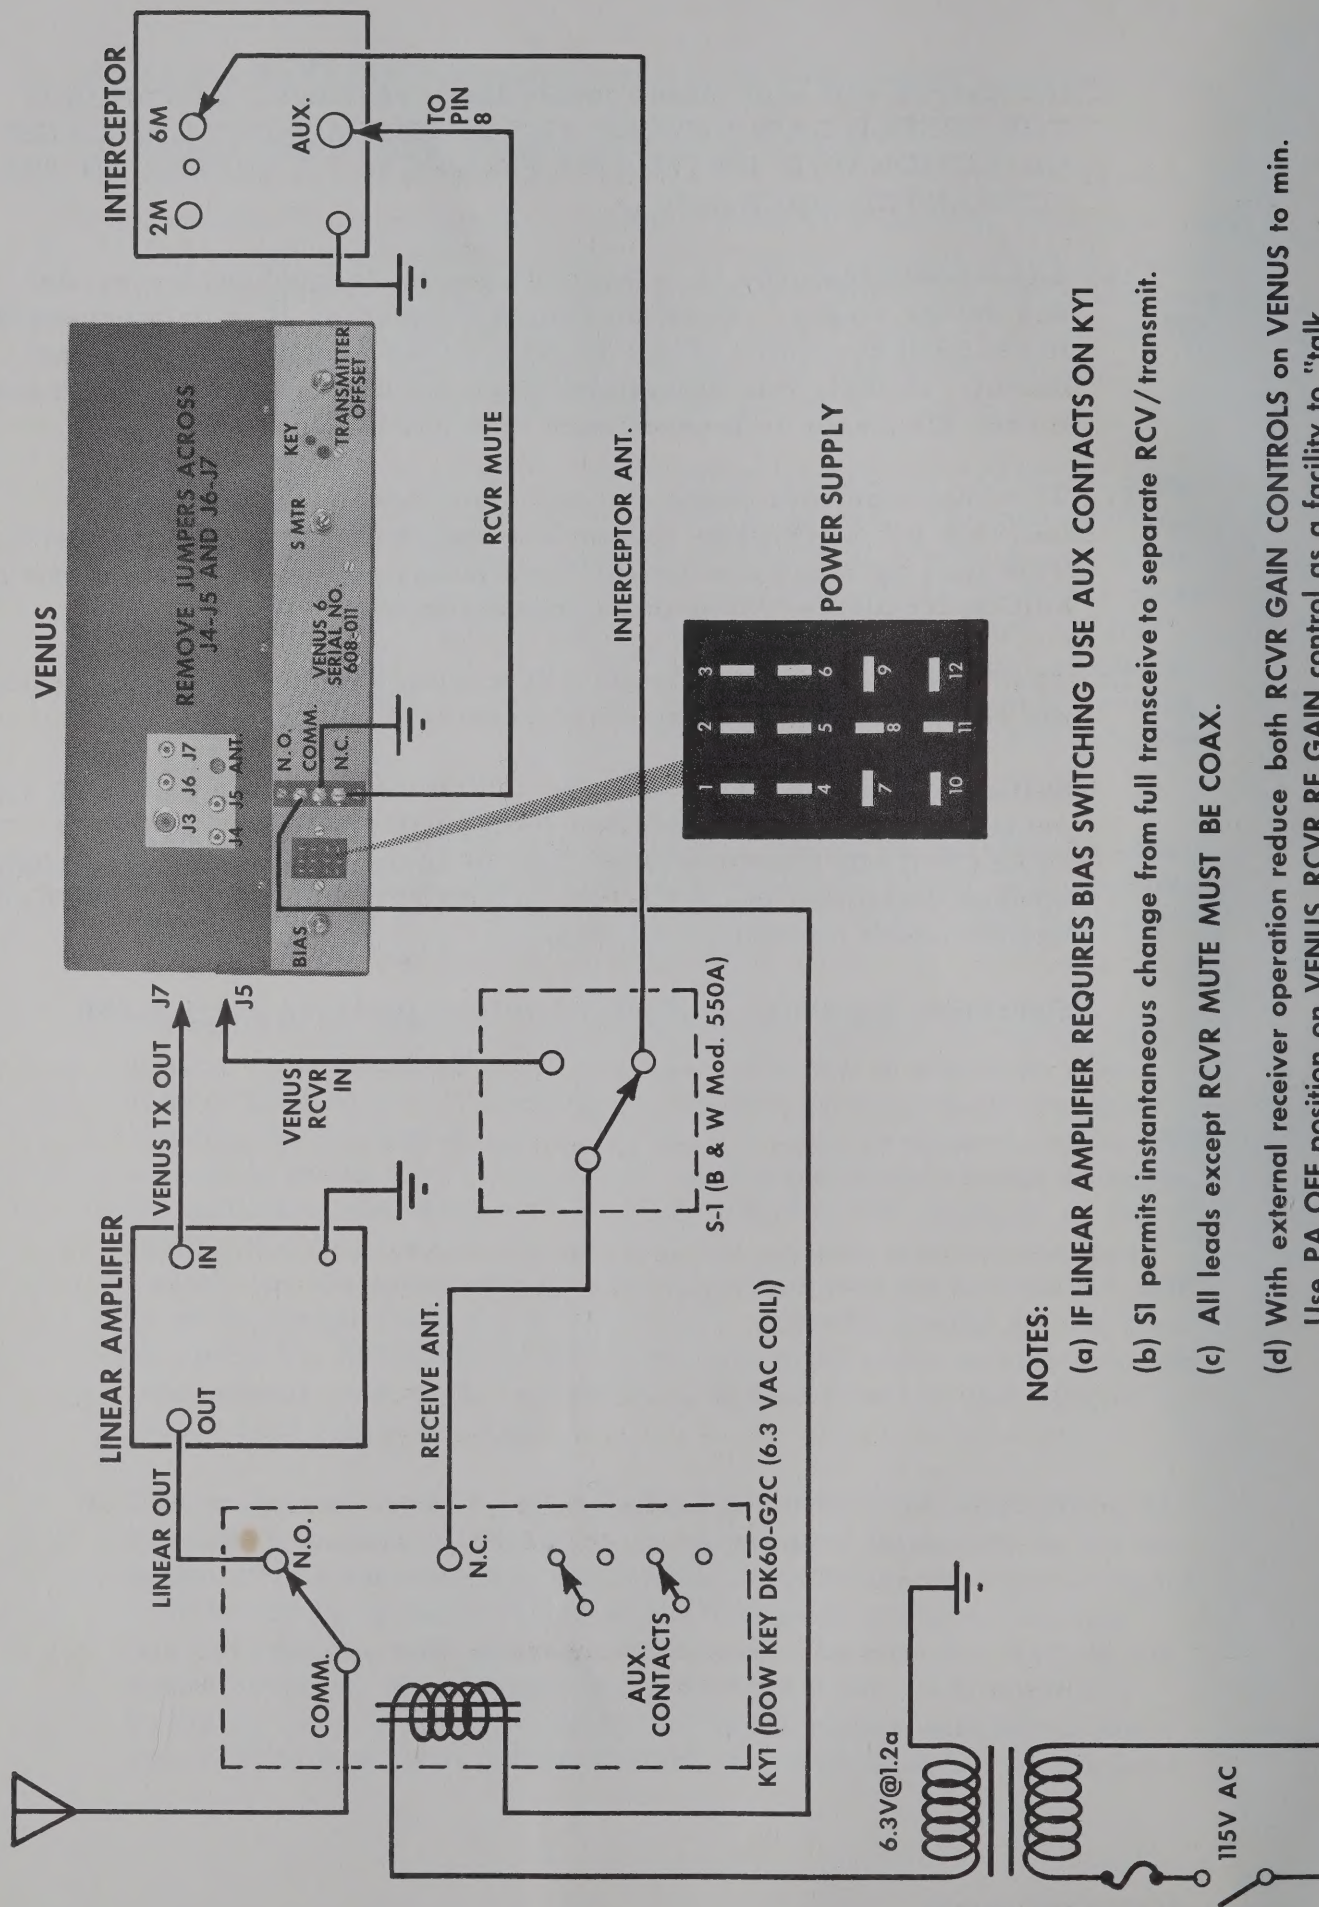

FIG. 4
RCA phono connectors adjacent to the antenna connector and the three circuit terminal strip adjacent to the power plug at the rear of the unit per figure 4 provide these facilities.
1. TRANSMITTER OFFSET ADJUSTMENT (Control located on rear apron, See Figure 4). Adjustment of this control which is preset at the factory, should not normally be necessary unless several reliable reports indicate that your transmitter and receiver are not on exactly the same frequency.